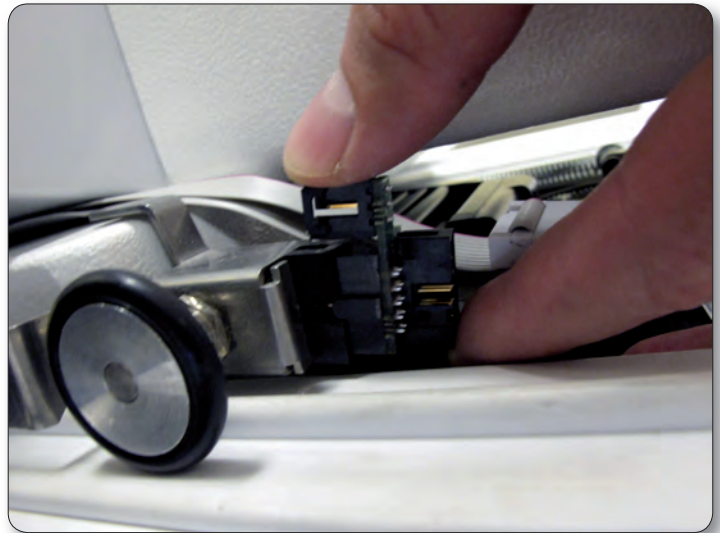

Figure 17
8. For HQ Sixteen only: Plug the Stitch Regulator Adapter Board (Page 16, Q) into the Y-axis stitch regulator encoder (Figure 17).